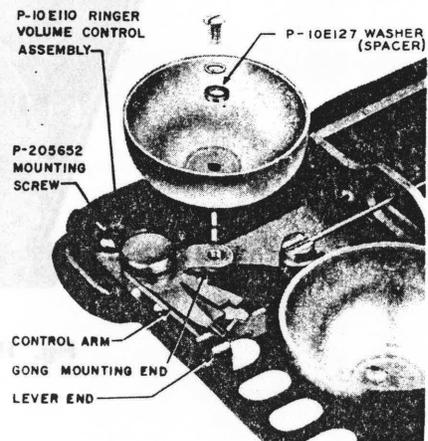

Fig. 18 - Ringer Volume Control Assembly
- (3) Place gong on ringer volume control assembly using a P-10E127 washer (Fig. 18).